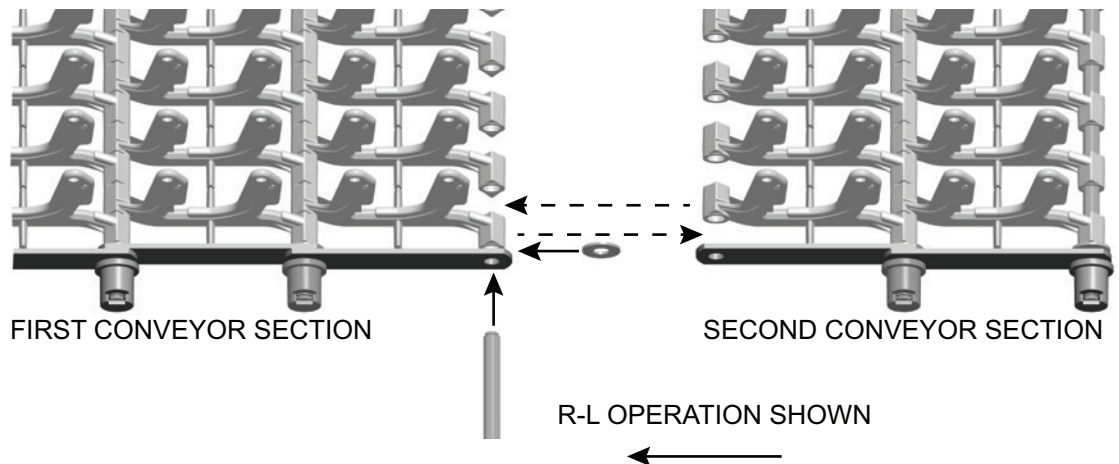

Fig. 39
- Remove the conveyor roller from one end of the last conveyor rod on the first section. Then pull the conveyor rod out and save the roller and washers for re-assembly. To join the sections, thread the rod back through the side bars and washer and then through the flight links, alternating the links from the first and second sections, and then through the washer and side bars on the opposite side. Complete the assembly by attaching the conveyor roller with a new retaining ring (Figs. 39 & 40). Spin the roller to ensure that the retaining ring has been secured to the conveyor rod. Always use a new retaining ring to secure a tight grip on the conveyor rod. Repeat this step for joining each succeeding conveyor section.